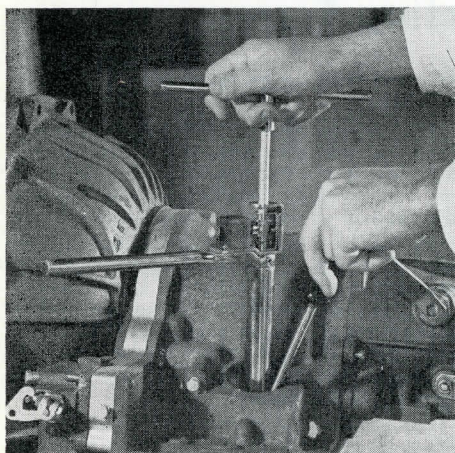

Figure 19
Adjustments on Buick models from 1948 to 1950 can be made by removing the front floor mat, floor board access cover, and band adjustment covers. This exposes the band adjusting screws. On 1951 and later models, the transmission must be removed from the car. See Fig. 19 for location of band adjusting ports.
5. Turn "T" handle until just a bit of play can be felt by jiggling the lock nut with a screw driver in other hand. Fig. 19 and 20. Set counter indicator at 00 and gear shift button in "A" position. Back-off adjusting screw by turning "T" handle six complete turns as indicated on counter dial. Tighten lock nut, making sure the adjusting screw does not turn in the process.